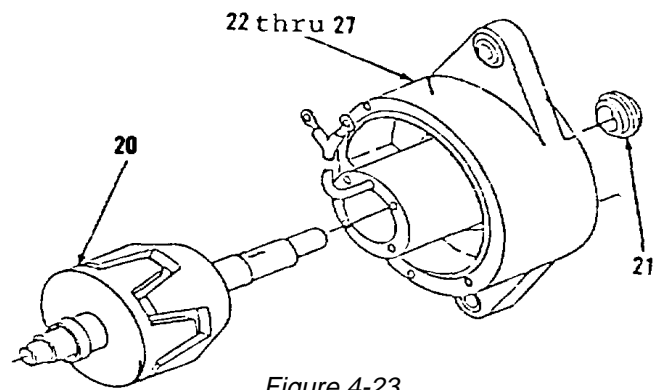

Figure 4-23.
18. Using an arbor press, remove rotor (20, Figure 4-23).
19. Remove spacer (21) from items 22 thru 27 as an assembly.